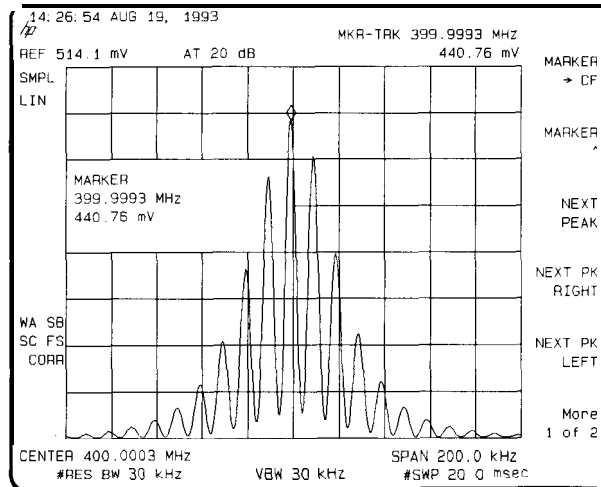

Figure 4-25. Viewing an AM Signal
2. First, center and zoom in on the signal in the frequency domain. (See “Decreasing the Frequency Span Using the Marker Track Function.”) Be sure to turn off the marker track function, since the marker track function must be off for zero span. See Figure 4-25.